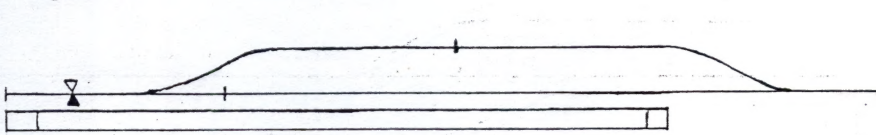
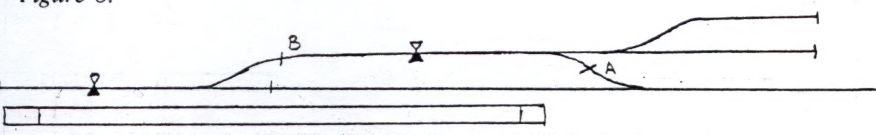

Figure 8.
Figure 9.
the end that the locomotive will be at when the train pulls in, but since there is no reason why the locomotive can not run right up to the end of the track, there is no reason for setting the railbreak back from the turnout and it can be right up against the turnout without affecting operation in any way. There are now two possibilities, either a new locomotive will arrive and be attached to the other end of the train to take it out the other way (in which case there is no problem since the first locomotive is effectively isolated at the end of the line), or the original locomotive will be required to run around its train by using the loop so as to pull the train back out in the other direction. This second case is the reason for the loops existence and we find that the position of the rail break on this track does not affect our ability to operate in the desired way and that the rail break can therefore be placed anywhere on the loop. Figure 8 shows the break in the centre of the loop.
The situation is, of course, changed if we have sidings (or whatever else that requires turnouts similarly placed) coming off of our loop. Let us consider the situation from figure 8 again, but this time place a couple of sidings off of the loop at the departure end (see figure 9). Now we have a crossover between the two lines and the rail break that could have gone anywhere on the loop must now be placed in a fixed position (marked A). This would be the only change required were it not for the fact that we now have another use for the loop line from an operational viewpoint. We now wish to be able to shunt the sidings using the loop line while at the same time allowing a passenger train to arrive in the platform. The arriving passenger train requires that both of the turnouts on the line next to the platform be set for a straight through run. Unless we make a further alteration to the wiring, then we will find that this cuts off the power supply to the loop. The solution is to install another rail break (B) and associated feed so as to be able to operate the loop line independently. Note that adding extra breaks, along with the extra feed points that this requires, will not stop any moves that were previously possible from still being able to be made.